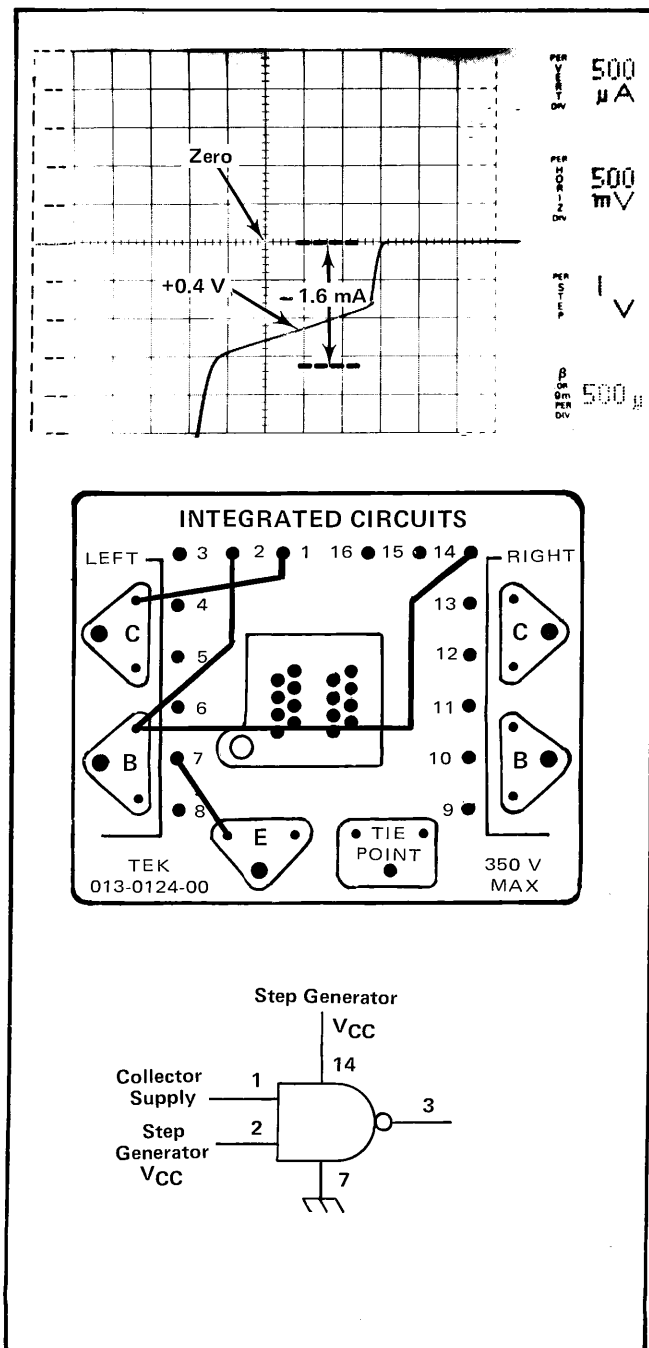

Fig. 7. Setup and Type 576 display for measuring I_{in} (o).
b. Connect the patch wires to the IC adapter as shown in Fig. 7.²
c. Set the LEFT-OFF-RIGHT switch to LEFT and turn the VARIABLE COLLECTOR SUPPLY clockwise until the input voltage is at 0.4 V (see the display in Fig. 7).